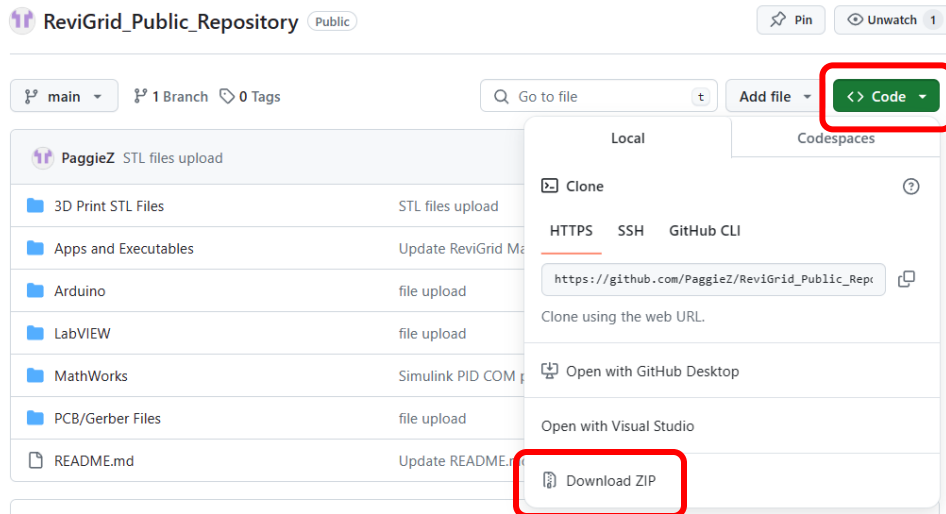

Figure 1.2 Download ZIP icon on GitHub Repository
- Click on the <> Code icon  and select *Download ZIP*  Download ZIP as shown in *Figure 1.2*.